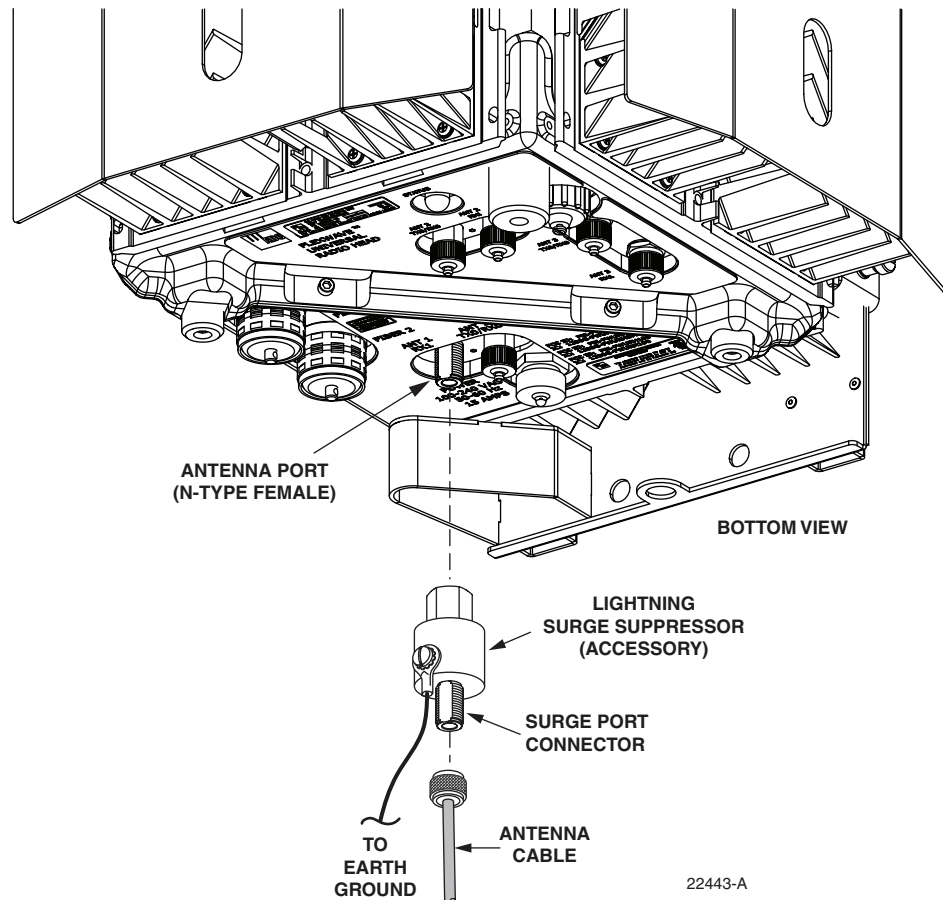

Figure 8. Connecting Antenna Cable to Antenna Port
- Remove the dust cap from the N-type female connector located on the underside of the unit as shown in Figure 8.